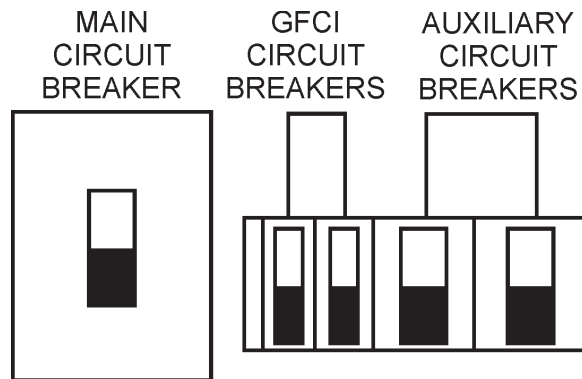

Figure 53. Main, AUX. and GFCI Circuit Breakers (OFF)
- Switch the **MAIN**, **AUX** and **GFCI** circuit breakers (Figure 53) to the “**OFF**” position (no load).